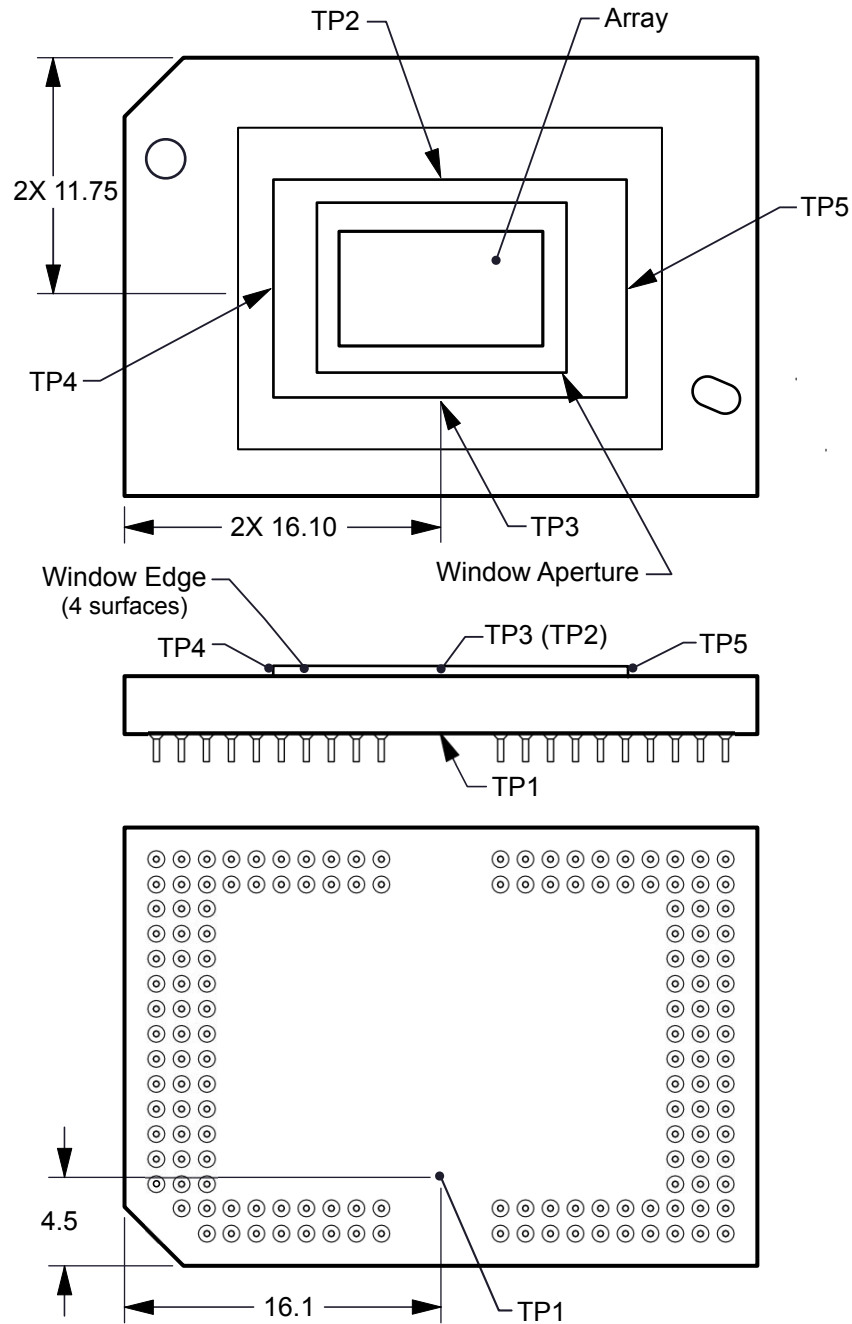

Figure 6-1. DMD Thermal Test Points
Micromirror array temperature cannot be measured directly, therefore it must be computed analytically from measurement points on the outside of the package, the package thermal resistance, the electrical power, and the illumination heat load. The following equations show the relationship between array temperature and the reference ceramic temperature, thermal test TP1 Figure 6-1 shown above:
- T_{CERAMIC} = Measured ceramic temperature ($^{\circ}\text{C}$), TP1 Figure 6-1
- $R_{\text{ARRAY-TO-CERAMIC}}$ = Thermal resistance of package specified in Section 5.5 from array to ceramic TP1 Figure 6-1 ($^{\circ}\text{C}/\text{W}$).
- Q_{ARRAY} = Total DMD Power (electrical + absorbed) on array (W).
- $Q_{\text{ELECTRICAL}}$ = Nominal electrical power (W)
- Q_{INCIDENT} = Incident illumination optical power (W)
- $Q_{\text{ILLUMINATION}}$ = (DMD average thermal absorptivity $\times$ Q_{INCIDENT}) (W)